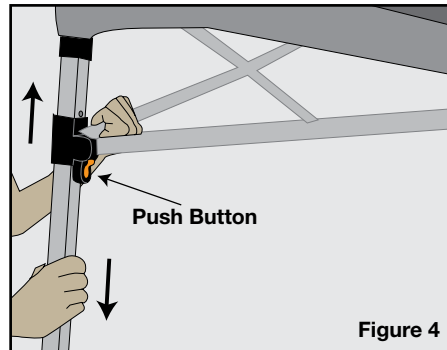

Figure 4
1. To fully extend the Gazebo frame and lock into position; grab the sliding bracket around the top portion of the leg with one hand and with the other hand grab the gazebo leg. Pull your hands apart until the push button locks into position as indicated in Figure 4. Avoid placing hands near the pinch points of the scissor-action struts when completing this step.